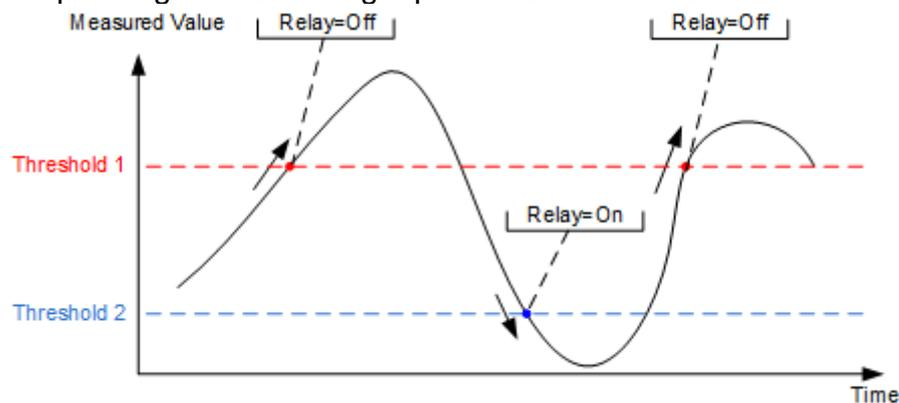
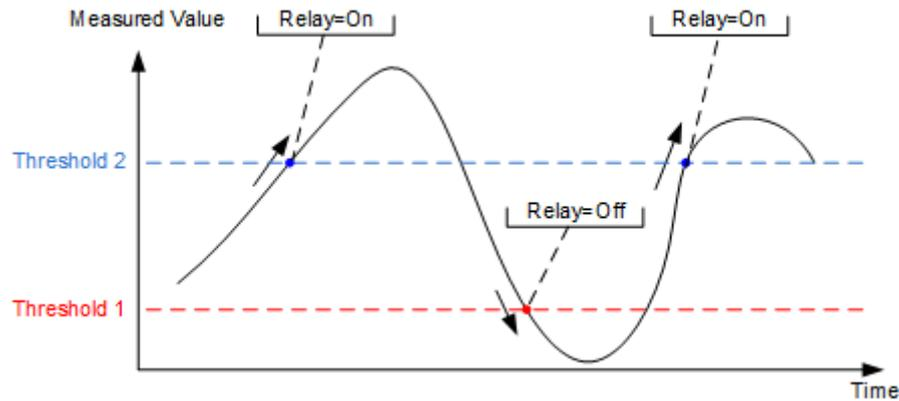

Figure 7.23. Normal mode: AI Threshold 1 > AI Threshold 2
Figure 7.24. Inverse mode: AI Threshold 1 < AI Threshold 2
- 💡 The Relay can be controlled in "normal" (Fig. 7.23) or "inverse" (Fig. 7.24) mode depending on the Analog Input threshold values.